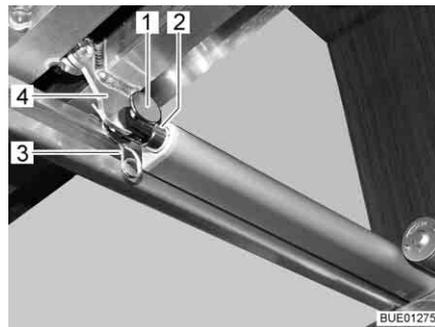

Fig. 93 Drive
- Remove the connection (e.g. pin and cotter pin (Fig. 93,1 and 3)) between the push rod (Fig. 93,2) and the slatted frame (Fig. 93,4).